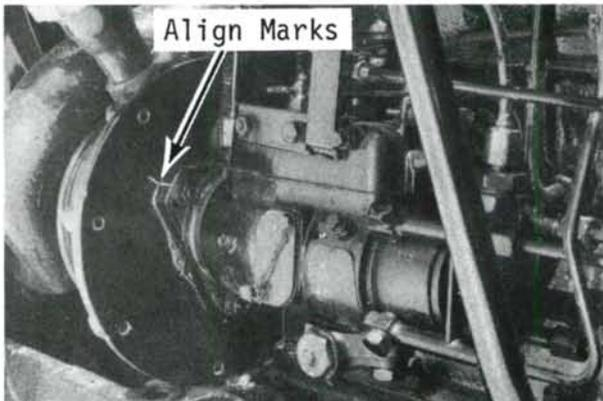

Fig. 114—On four-cylinder engines, injection pump is properly timed to engine when marks on pump flange and engine front plate are aligned.
**138. PUMP TIMING.** Injection pump drive gear is timed to pump shaft by a dowel pin. Providing mesh position of engine timing gears is correct (paragraph 94), injection pump is properly timed when timing marks on pump flange and engine front plate are aligned as shown in Fig. 114.
To reinstall injection pump, first make certain idler gear and pump drive gear timing marks are still correctly aligned. Install pump, aligning slot in pump shaft with dowel in gear. Align marks on pump flange and engine front plate (Fig. 114), then tighten pump
**141. PUMP TIMING.** Pump drive gear is keyed to injection pump shaft. Providing mesh position of engine timing gears is correct, injection pump is properly timed when marks on pump and timing gear case are aligned in similar manner as marks in Fig. 114.